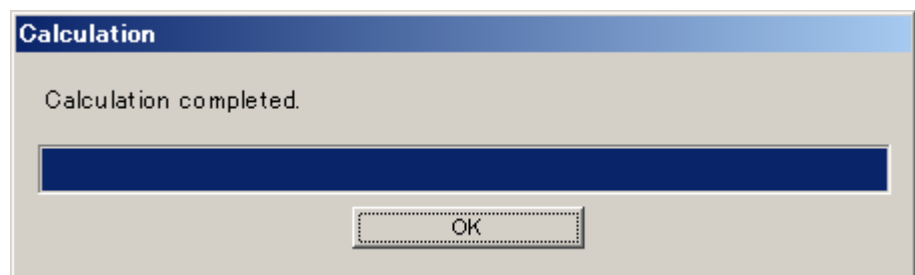

Figure 4.10.4-2 Waveform generation execution screen
6. When waveform pattern generation starts, the waveform generation execution screen shown in Figure 4.10.4-2 appears. When the **Cancel** button at the bottom of the screen is clicked, waveform generation stops and the setting screen is displayed again. When waveform generation completes (when “Calculation Completed” is displayed), click the **OK** button to close the waveform generation screen and return to the setting screen.